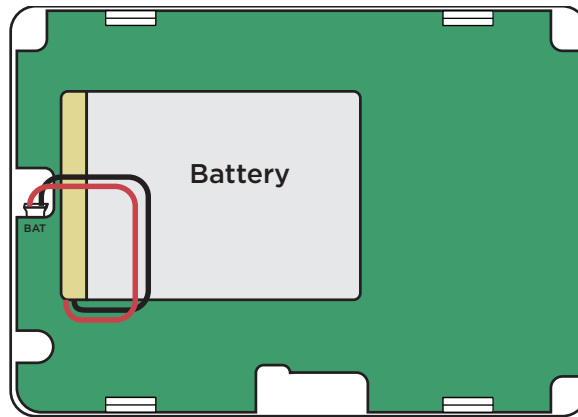

Figure 20: Replace the Battery
The 9800 Series Keypad rechargeable battery provides up to 24 hours of backup battery power when AC or DC power is not available. The battery is intended for backup power only and should not be used to operate the keypad on a daily basis. If the battery is low, or not plugged into the battery connector, a low battery condition is indicated. See Figure 20.
4. Place the new battery on the keypad PCB using double-sided mounting tape. See Figure 20.